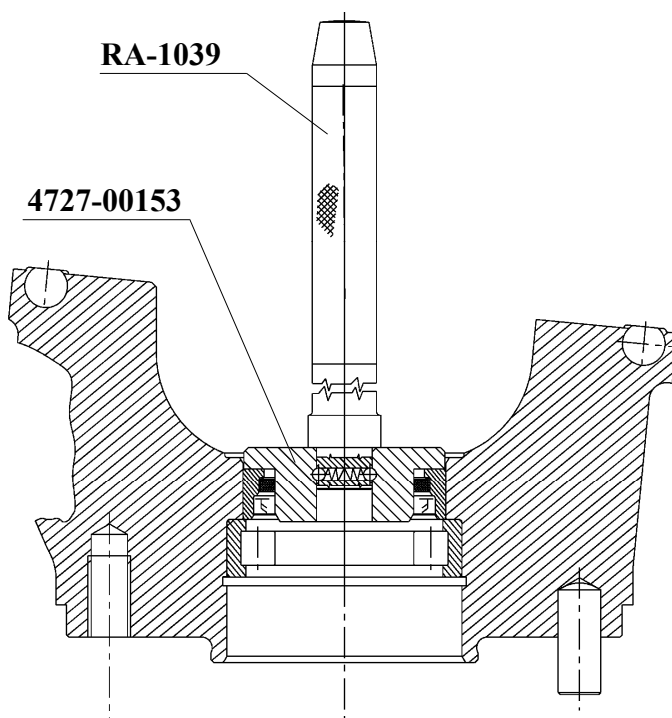

Fig. 1.: REMOVING THE SEAL RETAINER AND THE CYLINDRIC ROLLER BEARING
Drive out the cylindric roller bearing (74) and the seal retainer (75) (Fig. 1.).